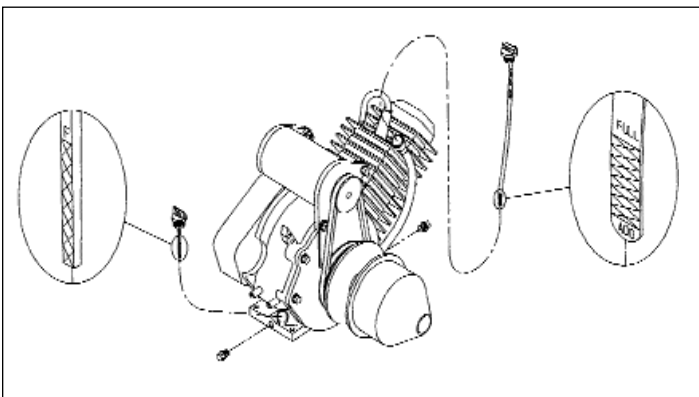

Figure 5- Oil Fill and Drain Plugs
1. BE SURE OIL LEVEL IS MAINTAINED. CHECK OIL LEVEL EVERY EIGHT (8) HOURS OR DAILY. EQUIPPED WITH DIPSTICK/OIL FILL TUBE, SCREW DIPSTICK IN SLOWLY UNTIL IT BOTTOMS. CHANGE OIL AFTER FIRST EIGHT (8) HOURS OF OPERATION.
2. Thereafter, change oil every one hundred (100) hours of operation or every fifty (50) hours of operation if operated under heavy load or in high ambient temperatures.
3. Remove oil drain plug, Figure 5, and drain oil while engine is still warm.
4. Install drain plug. See Figure 5.
5. Remove fill or oil dipstick and refill slowly with new oil of proper service classification and viscosity grade. DO NOT OVERFILL. See Figures 5 and 6.
- Note:** **LONG DIPSTICK** - Always screw long dipstick in completely to check oil level. See Figure 5.